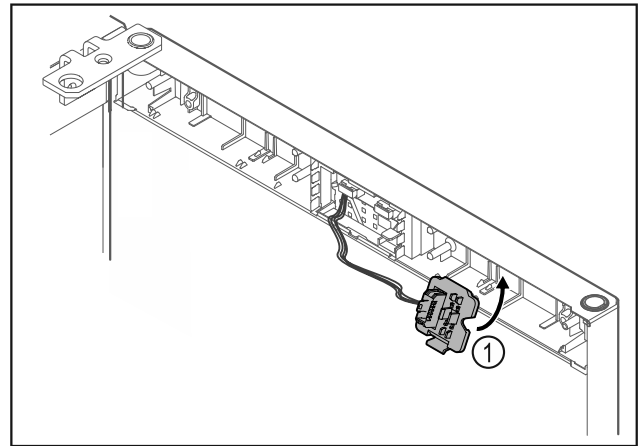

Fig. 18
- ▶ Snap in the plug holder Fig. 18 (1) on the opposite side.